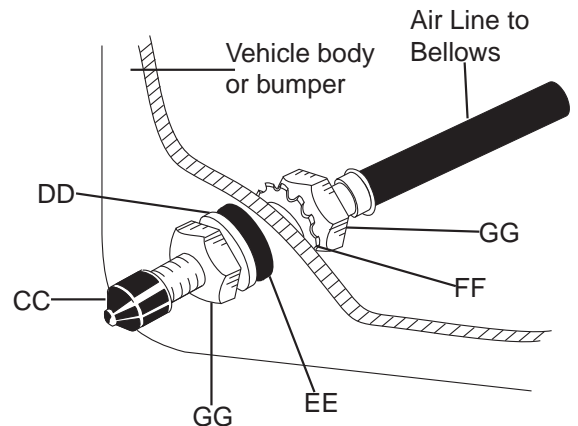

Figure 6
4. Place a $\frac{5}{16}$ " nut (GG) and a star washer (FF) on the air valve. Leave enough of the inflation valve in front of the nut to extend through the hole and have room for the rubber washer (EE), flat washer (DD), and $\frac{5}{16}$ " nut (GG) and cap (CC). There should be enough valve exposed after installation - approximately $\frac{1}{2}$ " - to easily apply a pressure gauge or an air chuck (Figure 6).
5. Push the inflation valve through the hole and use the rubber washer (EE), flat washer (DD), and another $\frac{5}{16}$ " nut (GG) to secure it in place. Tighten the nuts to secure the assembly in place (Figure 6).